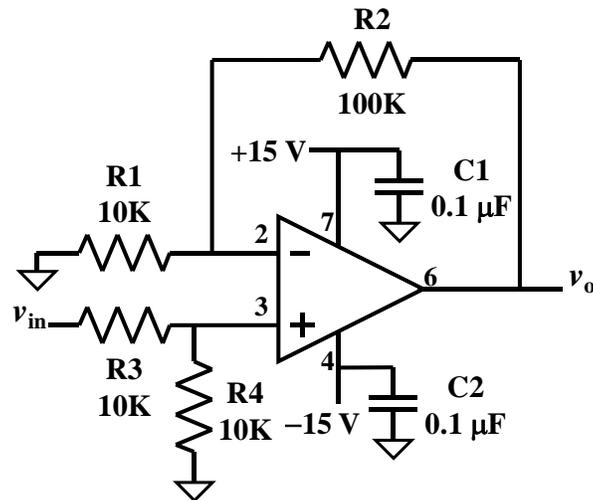

Fig. 4. Third op-amp circuit.
- Use  $\pm V_{CC} = \pm 15\text{ V}$  for all circuits; that is  $+V = 15\text{V}$  and  $-V = -15\text{V}$ . For all circuits except circuit 3 in Fig. 4, make sure that the input voltage,  $v_{in}$ , has no dc-offset voltage.
4. Consider the third circuit in Fig. 4.